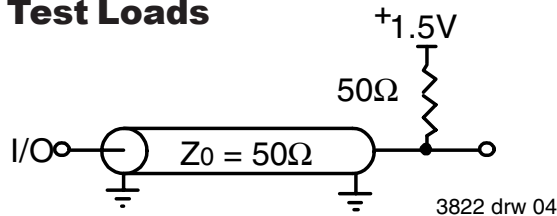

Figure 1. AC Test Load
AC Test Load	See Figure 1
3. These parameters are guaranteed with the AC load (Figure 1) by device characterization. They are not production tested.